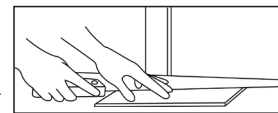

Figure 7
- Undercut door casings and jambs. Remove any existing base, shoe mold or doorway thresholds. These items can be replaced after installation. All door casings and jambs should be undercut to avoid difficult scrobe cuts (Figure 7).